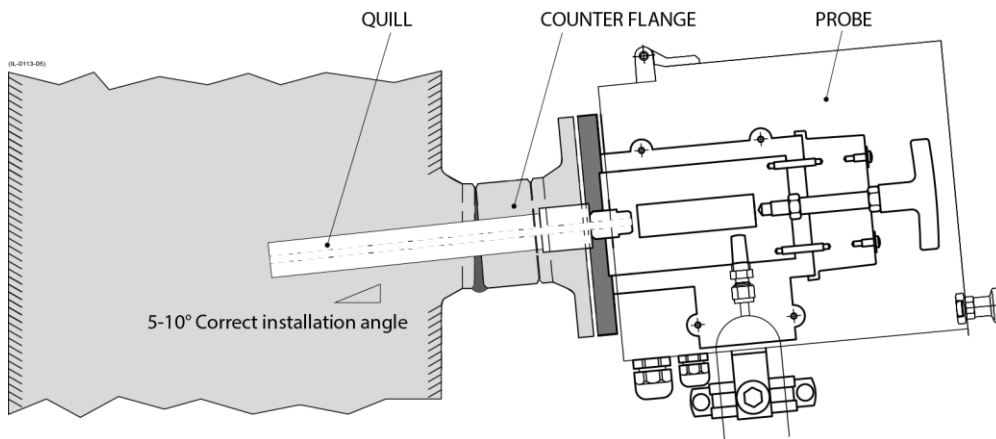

Figure 12 Probe with 5-10° installation angle (standard quill mounted)
- c) Make sure the inclination of the probe (and the quill) will be approx. 5-10°. Refer to Figure 12.
- 6) Insert the quill into the exhaust funnel. Refer to Figure 12.
- 7) Mount the sample probe onto the counter flange. Check that inclination angle is approx. 5-10°. Refer to Figure 12.